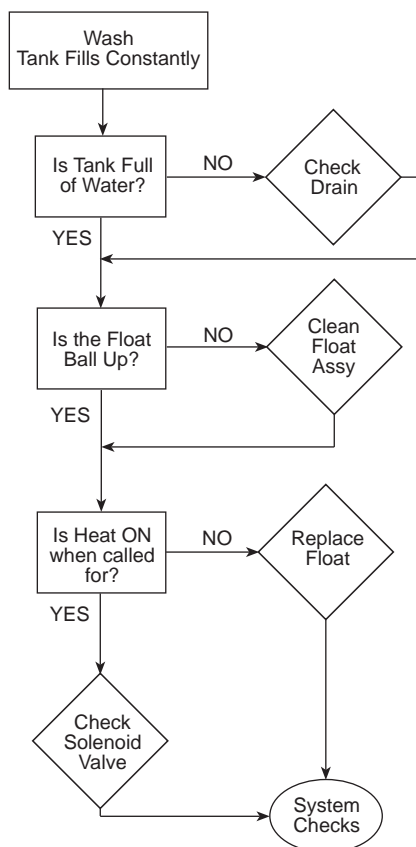

Figure 13
5. Refer to the float switch troubleshooting chart (Fig.13) below, for a quick guide to evaluating float switch problems.